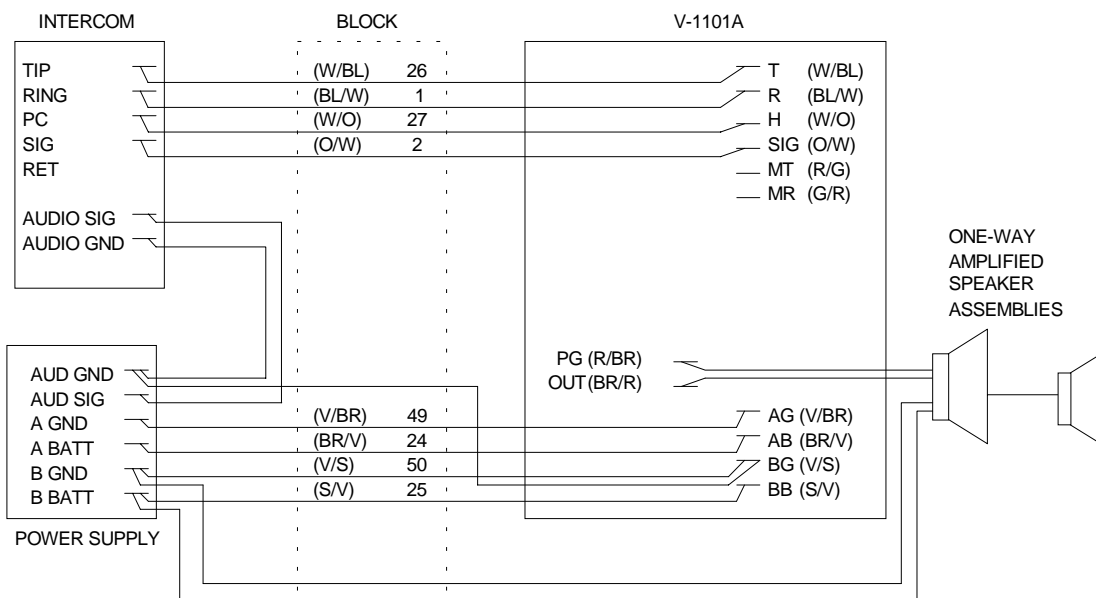

FIGURE 5
When connecting the V-1101A to an intercom number (Figure 5) four leads are required from the intercom: Tip and Ring to supply audio, a Page Control Lead, and a Signal Lead. The Page Control Lead must supply a Ground whenever the intercom is in use, and must be open when the intercom is idle. This lead is used to release the V-1101A at the end of a page. The intercom may be wired to use 10 Vac, 18 Vac, or 105 Vac for signaling. The intercom signal must be momentary, i.e., the signal must be present for approximately 1 second and then drop off. A continuous signal will prevent the V-1101A from operating.
1. No output at speakers.	1. Check for audio on the Red/Brown pair of the V-1101A while paging. <ul style="list-style-type: none"> <li>(a) If audio is present: Verify proper audio and power wiring to speakers. Try connecting a speaker in the equipment room: Connect the Tip and Ring leads directly to the Red/Brown pair of the V-1101A and connect the -24 Vdc and ground leads to the power supply. Test again.</li> <li>(b) If no audio: Refer to Wiring Instructions and complete the power test (step 7). Correct any problems and test again. If there is still no audio, then return to the installation Figure used and verify ALL connections. Use a meter to verify the connections from the punchdown block to the amphenol. If there is still no audio and you used Figure 5 Intercom Access, connect a bell or buzzer to the V-1101A H and SIG leads. Dial the page access number. If the bell or buzzer does not ring, then you are either not getting a page control from the intercom, or you have connected the wrong half of the signal pair to the V-1101A SIG lead.</li> </ul>